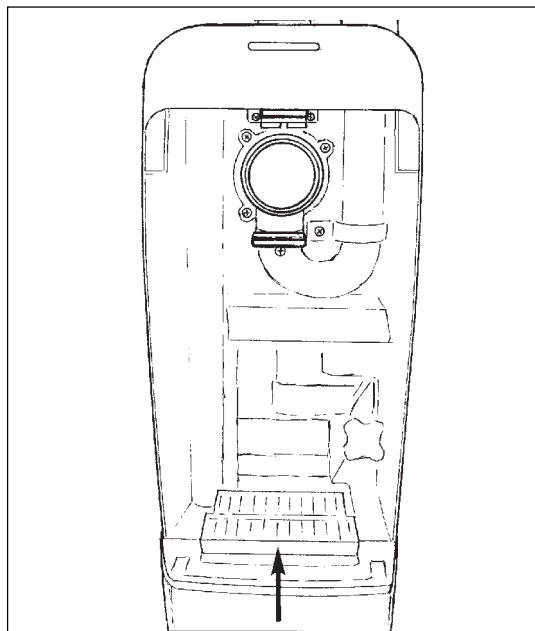

Figure 20
4. Remove the filter cartridge (see figure 20).